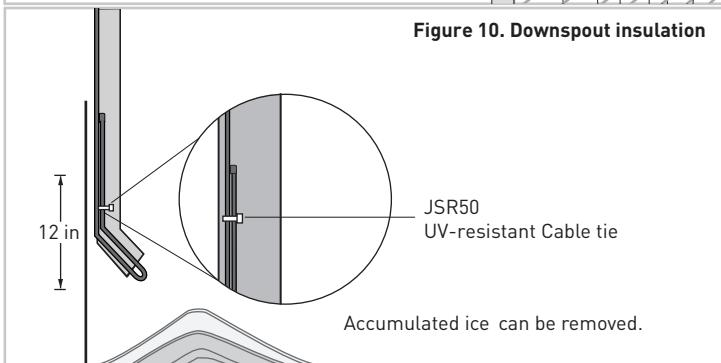

Figure 10. Downspout insulation
- Run heating cable along gutters and into downspouts, ending below the freezing level. Permanent attachment of the cable to the gutter bottom is not necessary. Loop the heating cable in downspouts. Do not leave the end of the JHSF1-CT in air at the end of the downspout as shown in Figure 10.